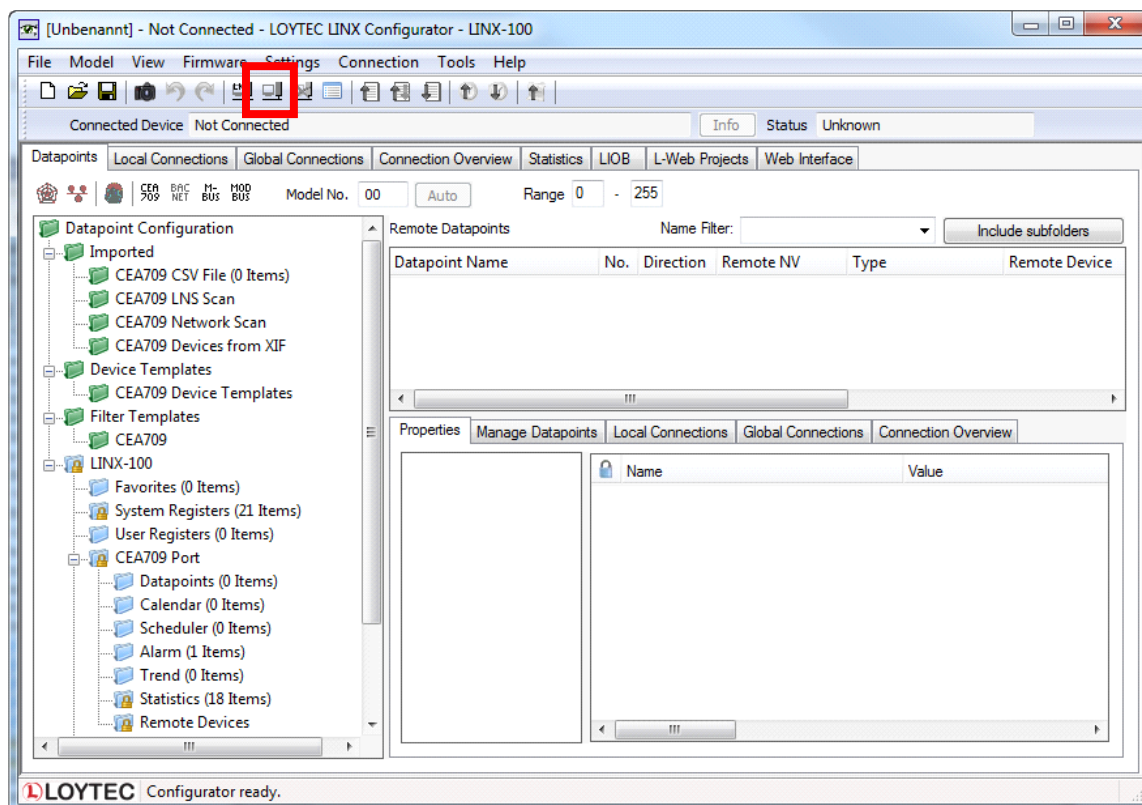

Figure 39: L-INX Configurator main screen.
1. Start the L-INX Configurator software by selecting Windows **Start → Programs → LOYTEC LINX Configurator → LOYTEC LINX Configurator**. The application starts up and displays the data point manager screen as shown in Figure 39.
2. When the device is online, connect to the device by clicking on the **Connect to device** speed button as indicated by the red rectangle in Figure 39.